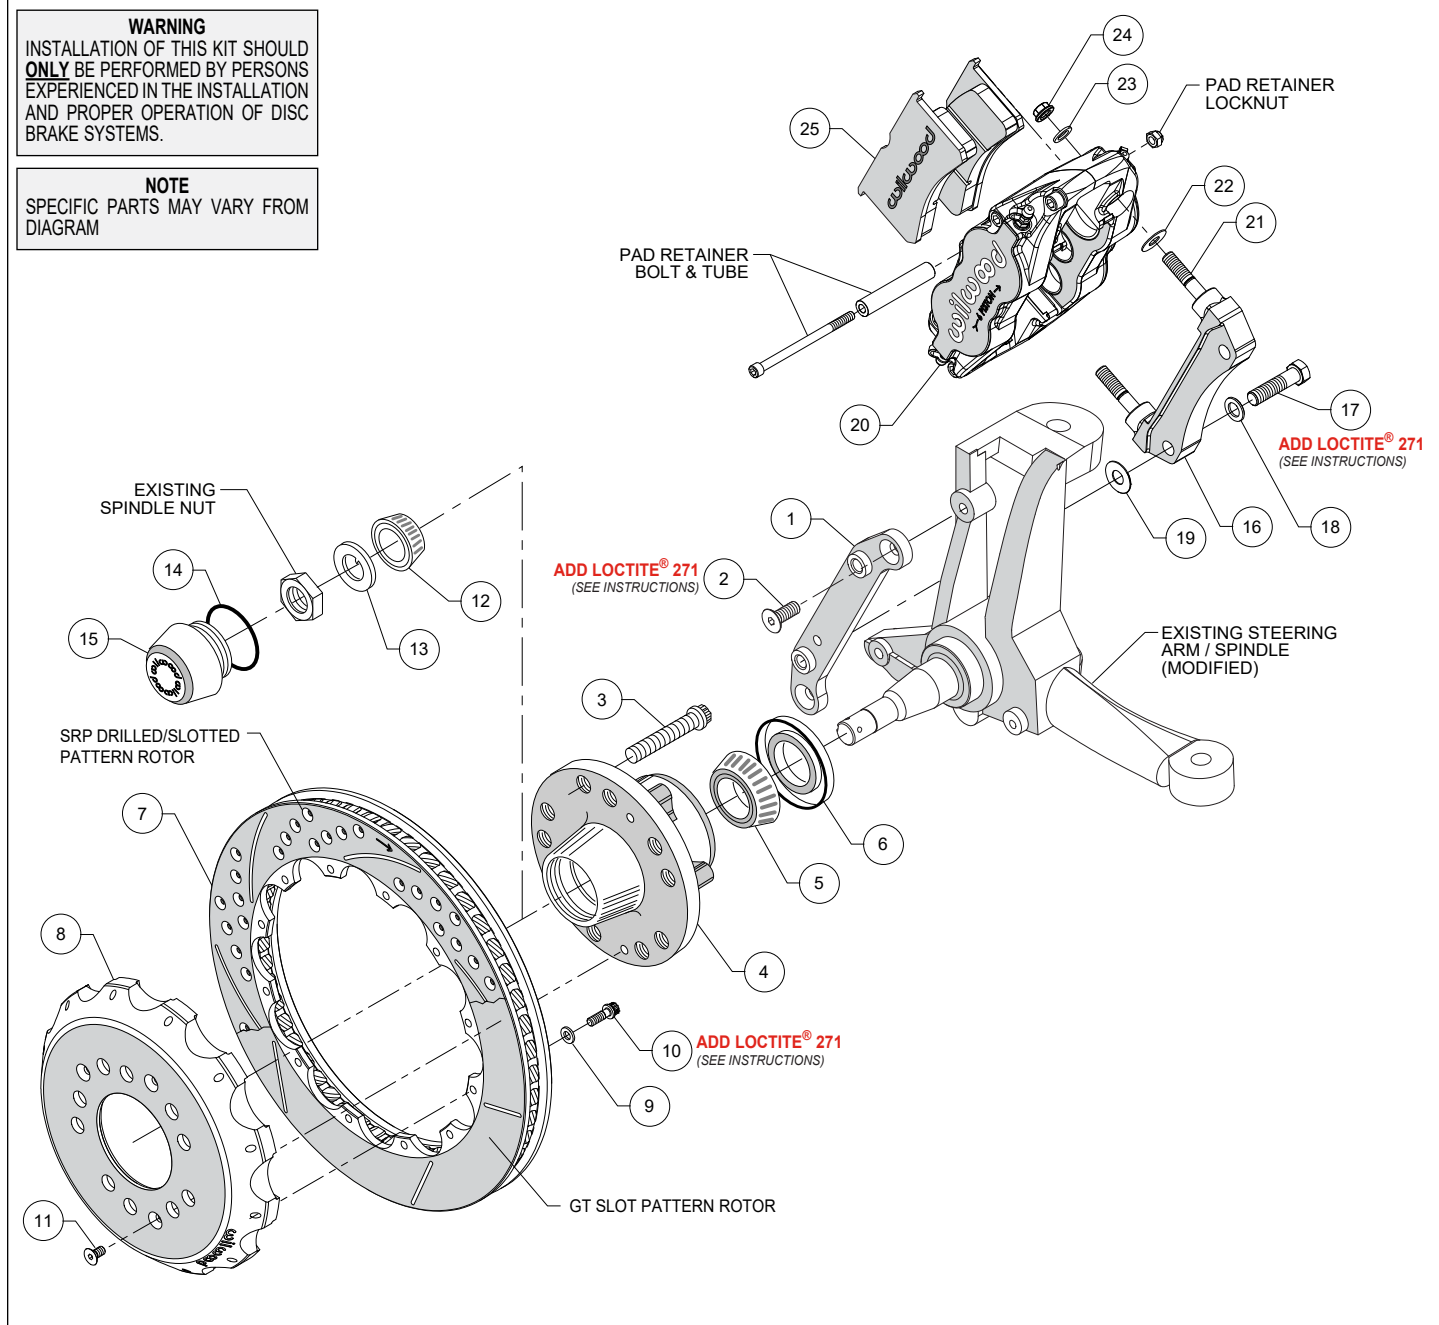
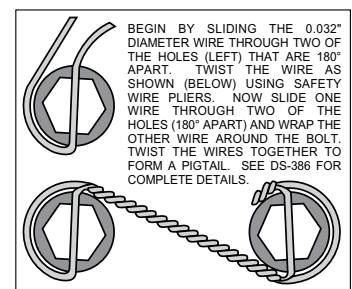

Figure 2. Typical Installation Configuration
Figure 4. Safety Wire Diagram
**NOTE:** Numbers in parenthesis refer to the parts list on the preceding page and Figure 2.
- Orient the caliper mounting flat bracket (1) as shown in Figure 2 and install using bolts (2), Photo 1. **NOTE:** Be sure the heads of the flat mount bracket clinch nuts (1) are facing outward toward the wheel. Temporarily tighten the mounting bolts. **NOTE:** The bracket must fit squarely against the mount bosses on the upright. Inspect for interference from casting irregularities, machining ridges, burrs, etc. After the bracket fitment has been checked, remove the bracket mounting bolts (2) one at a time, apply red *Loctite*® 271 to the threads and torque to 30 ft-lb.
- Install five new wheel studs (3) into the hub (4). Torque to 77 ft-lb. **NOTE:** There are two five lug patterns in the hub (5 x 4.50 and 5 x 4.75). Make sure of the correct hole pattern for the correct wheel application before installing studs into hub.
- Pack the large inner bearing cone (5) with high temperature disc brake bearing grease (available from your local auto parts store) and install into the backside of the hub (4).
- Install the grease seal (6) by pressing into the backside of the hub (4).
- Pack the small outer bearing cone (12) with high temperature disc brake bearing grease and install into front side of the hub (4). Slide the hub assembly (4, 5, 6 and 12) onto the spindle. Secure using spindle washer (13), stock adjusting nut, and nut locking device. Adjust wheel bearing pre-load per Original Equipment Manufacturer (OEM) specifications.
- Install the o-ring (14) and the dust cap (15) into the hub (4). **NOTE:** O-ring (14) friction will not allow cap (15) to unscrew on its own.
- With the larger I.D. side of the rotor (7) facing away from the hat (8), bolt rotor (7) to hat (8) through the backside of the rotor using washers (9) and bolts (10). Apply red *Loctite*® 271 to the bolt threads and torque to 155 in-lb using a criss-cross pattern. For an added measure of security, the bolts may be safety wired using standard 0.032 inch diameter stainless steel safety wire as shown in Figure 4. Please refer to Wilwood's data sheet DS-386 (available at [www.wilwood.com/Pdf/DataSheets/ds386.pdf](http://www.wilwood.com/Pdf/DataSheets/ds386.pdf)) for complete safety wire installation instructions.
- Slide the rotor/hat assembly over the studs (3) in the hub (4) taking care to align the small countersunk holes in the hat (8) with the small threaded holes in the hub (4). Install three flat head socket head screws (11) through the small holes in the hat (8) and torque to 85 in-lb. Check to be sure the hat seats squarely against the hub face.
**NOTE:** Please reference the caution statement at the beginning of the assembly instructions. The radial mount caliper bracket (16) should initially be installed with clean, dry threads on the mounting bolts (17). Orient the bracket, as shown in Figure 2 and install using bolts (17) and washers (18). Initially place one .030" thick shim (19) on each bolt between the radial mount caliper bracket (16) and caliper mounting flat bracket (1), Figure 2. Temporarily tighten the mounting bolts. Later, after the caliper alignment has been checked, the mount bolts will be secured using red *Loctite*® 271.
•**NOTE:** This kit contains distinct right and left hand calipers that must be mounted in a specific direction, as described in below. Initially place one .035" shim (22) on each stud between the caliper and the bracket, as shown in Figure 2. Mount the caliper (20) onto the radial mount caliper bracket (16) using lock nuts (24) and washers (23), Figure 2. Ensure that the caliper is mounted so the largest pistons are at the rotor exit end of the caliper, in relation to the forward direction of rotor rotation. Temporarily tighten the lock nuts and view the rotor through the top opening of the caliper. The rotor should be centered in the caliper. If not, adjust by adding or subtracting .030" shims (19) as necessary between the radial mount caliper bracket (16) and the caliper mounting flat bracket (1). Always use the same amount of shims on each of the two mounting bolts (17). Once the caliper alignment is correct, remove the radial mount caliper bracket bolts (17) one at a time, apply red *Loctite*® 271 to the threads, and torque to 47 ft-lb.
•Remove the caliper pad retainer bolt, locknut, and tube from the caliper. Slide the brake pads (25) into place. They should install easily without interference. Check that the outside radius of the brake pad is flush with the outside diameter of the rotor face. Add or subtract shims (22) between the caliper and mount bracket to gain the proper alignment. Reinstall the caliper and torque the caliper nuts (24) to 30 ft-lb. Reinstall the pad retainer tube, bolt, and locknut. The locknut should be snug without play in the bolt or tube. Be cautious not to over tighten.